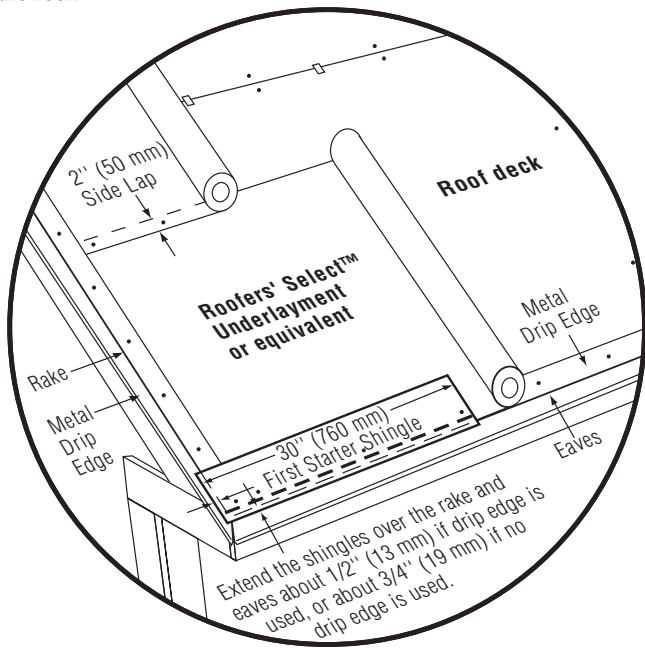

Figure 10-7: Standard slope underlayment and starter drip edge details.
3. Continue with full-length starter course shingles along the eaves (Figure 10-7).
2. Cut 5" off the length of the first starter strip and apply the resulting 31" piece at the lower left corner of the roof. This starter strip should overhang the rakes and eaves $\frac{1}{2}$ " when drip edge is used, or $\frac{3}{4}$ " when no drip edge is used (*Figure 10-7*).